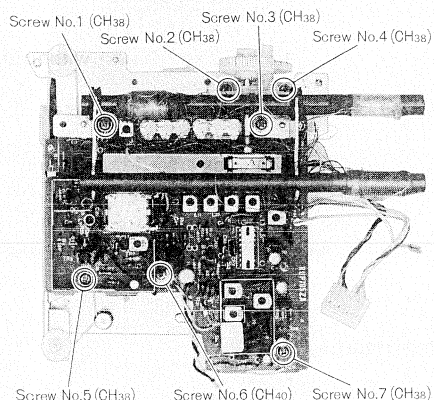

Fig. 4
2. Remove the seven (7) screws for the PC board, (nos. 1~7), as shown in fig. 4.